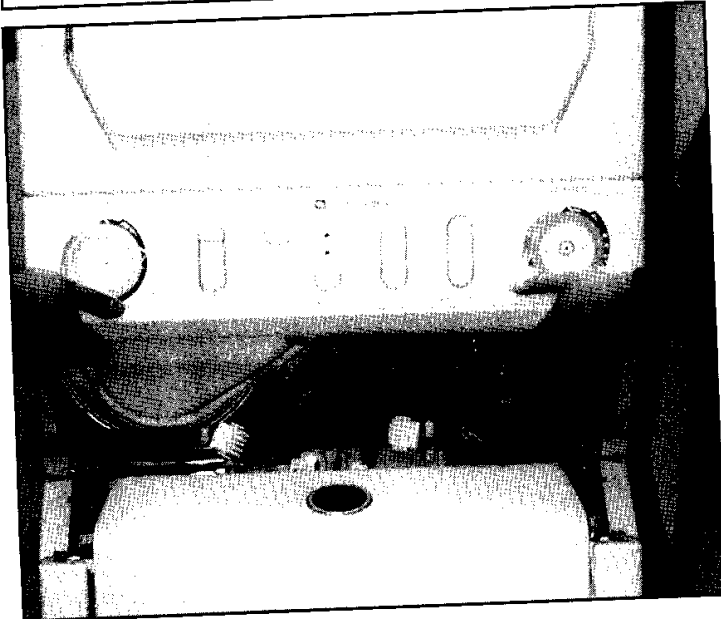
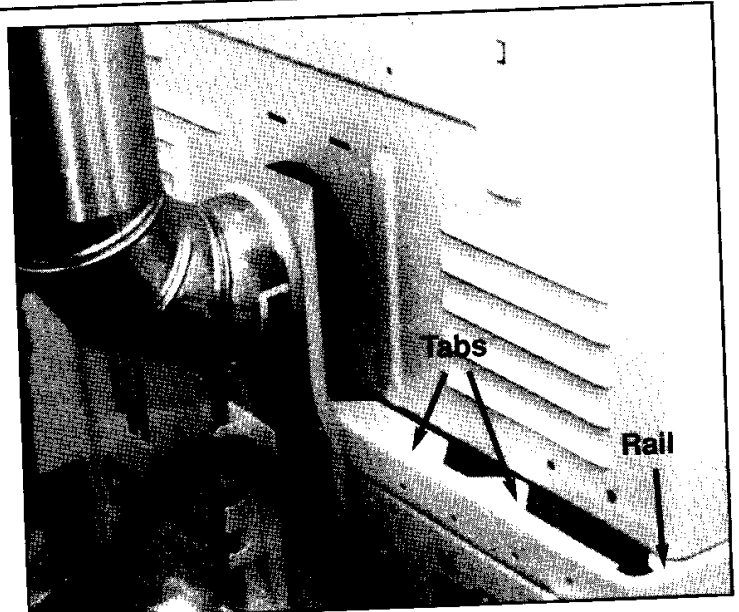

Figure 34
Figure 35
14. Two people, one on each side, grasp and lift the dryer onto the washer (see figure 34), taking care not to bend the tabs located towards the front of the washer. Slide the upper dryer toward the rear making sure that the guides fall between the rails on the support of the washer. (See figure 35.)